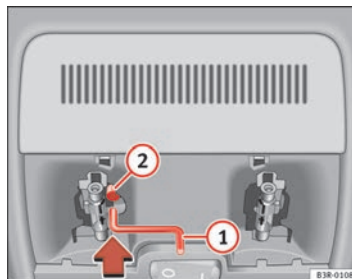

Fig. 84 Details of headliner: Crank handle for manual operations
- Insert the crank handle ① all the way into the hexagonal socket ② ⇒ page 114, fig. 84.